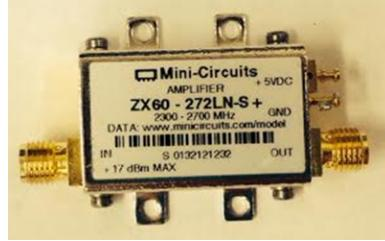

Figure 7: Picture of the Mini-Circuits ZX60-272LN-S+ amplifier.
- 2 × Mini-Circuits ZX60-272LN-S+ amplifier (Fig. 7). Table shows its main specifications (typical values) at room temperature. More detailed specifications can be found in the datasheet (<http://www.minicircuits.com/pdfs/ZX60-272LN+.pdf>5).